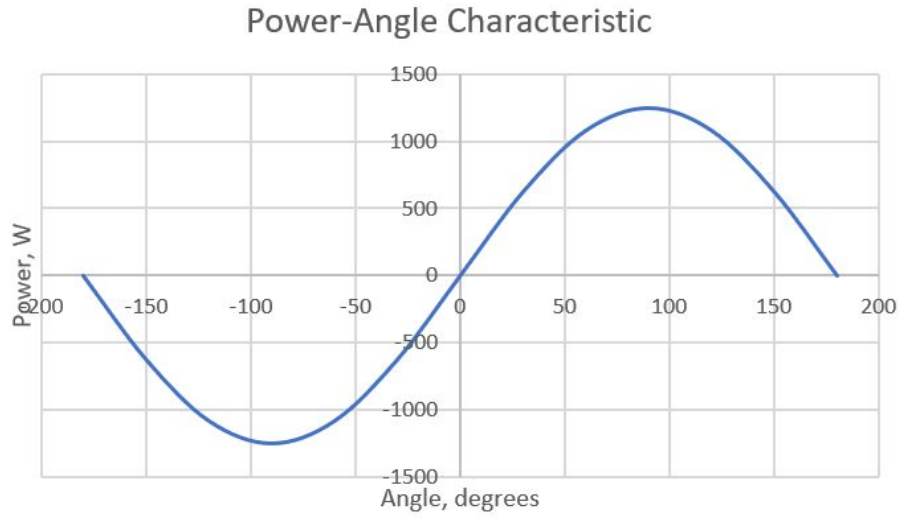

Figure 2.5-7: Power-Angle Characteristic
- From Figure 2.5-7 and 2.5-8, we can see that both maximum power and maximum torque occur at the angle of 90 degrees, resulting in maximum power being 1246 W and maximum torque being 5.85 Nm.